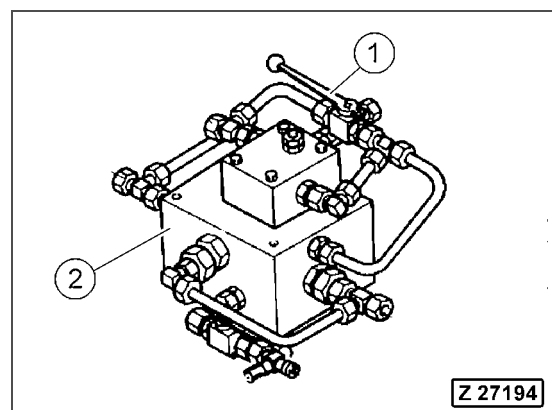

Fig. 4-72
6. Relieve the pressure in the track tensioning system by opening the ball cock (Fig. 4-72, Pos. 1) at the track tensioning valve block (Fig. 4-72, Pos. 2) inside the car body.